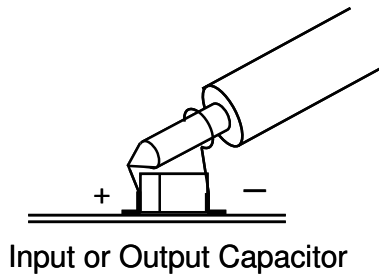

Figure 2. Proper Scope Probe Placement for Measuring Input or Output Ripple.
- To measure input and output ripple, please refer to Figure 2 for proper setup.